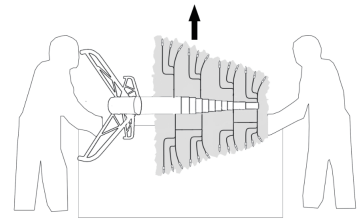

Fig 3.
1. Take out the tree from carton . (see Fig 3)